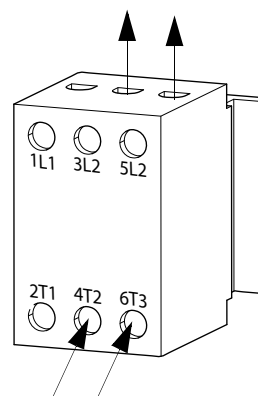

FIG. 9: Disconnect Switch Terminal Block
9. Attach the ground wire to the ground stud inside the junction box (K).
10. Refer to FIG. 9 and connect the wires from the power cord into terminals 4T2 and 6T3 on the disconnect switch terminal block.